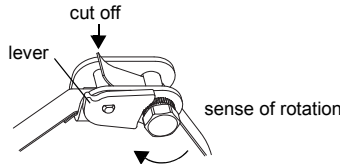

Fig. 7.32: Ratchet Clasp with tension strap
- Cut off the protruding tension strap (see Fig. 7.32).
To release the screw and the tension strap press the lever down (see Fig. 7.32).